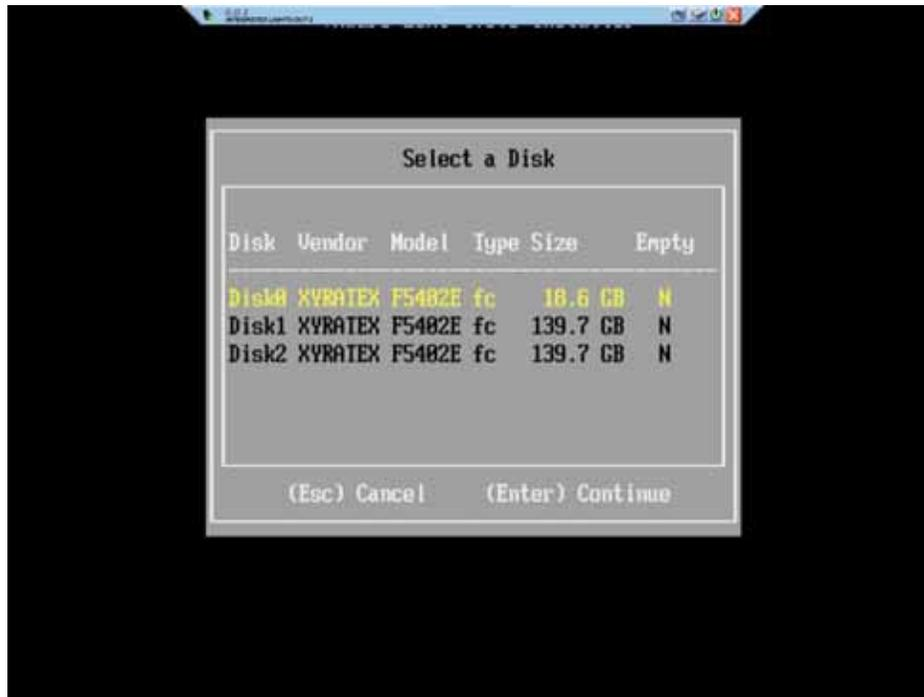

Figure 28 Select a Disk for Booting
- Step 5** On the Select a Disk dialog, select the LUN on which the SAN Boot vHBA is connected. Figure 28 on page 60 show an example of this dialog.